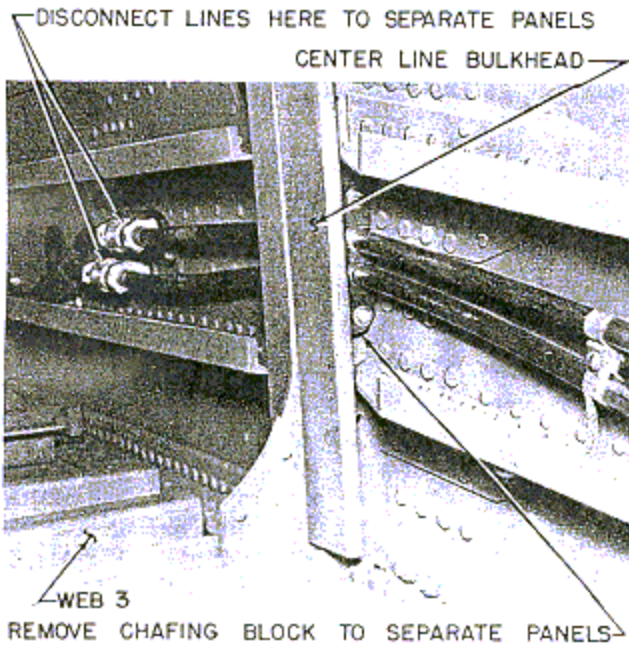

Figure 69—Landing Gear Hydraulic Lines in Wing
19. Disconnect the two 3/8-inch hydraulic lines to the right landing gear at the tee fittings located in the left wing panel between web 3 and web 4. Remove the chafing block from the center line bulkhead so that the hydraulic lines may be pulled through the opening in the bulkhead when the panels are separated. (See figure 69.)
6. Install the landing gear hydraulic lines in the wing and connect them to the tee fittings located in the left wing panel between web 3 and 4. Refer to the "Tube Chart for Hydraulic System" in section VIII for application of anti-seize thread, lubricant and the torque requirements of the tube fittings. Install the chafing block over the hydraulic lines where they pass through the center line bulkhead. (See figure 69.)